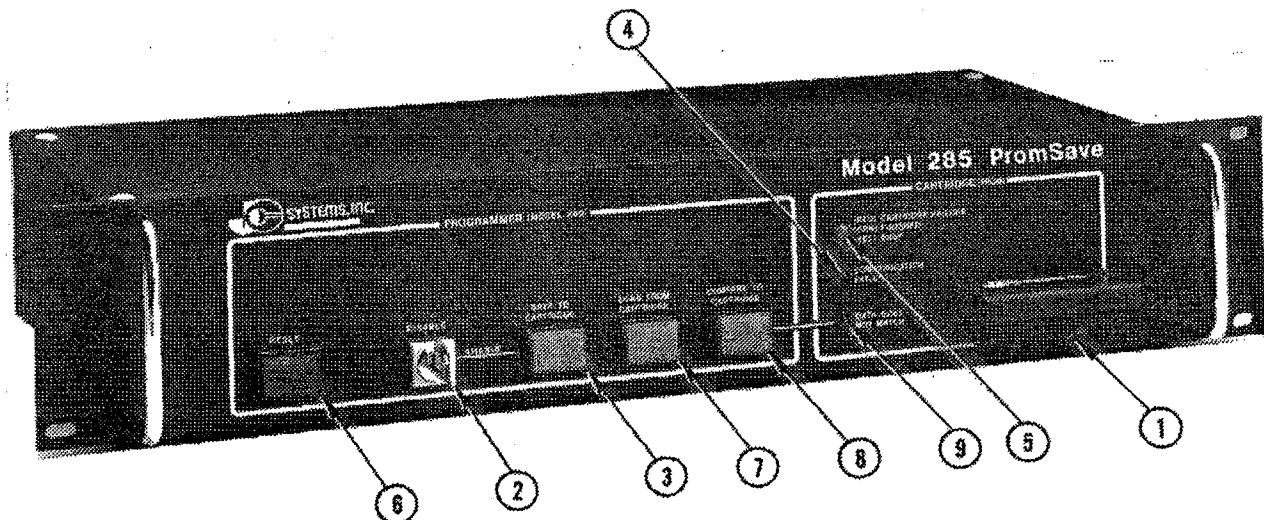

Figure 4-1: Model 285 PromSave™ Controls and Indicators.
This chapter describes how to connect and use the JC Systems Model 285 PromSave™ (Figure 4-1). This device is an optional accessory that permits fast, easy storage and retrieval of programs developed on the JCS Model 240A, 510 or 520. Such programs can be stored on the PromSave™'s cartridge and retrieved for reuse at any time.
1. Insert EEPROM cartridge (Figure 4-1 Item 1) into its receptacle on PromSave™ front panel.
2. Turn PromSave™ keyswitch (2) to ENABLE position.
3. Press SAVE TO CARTRIDGE button (3). Program transfer will begin. During memory transfer, the PromSave™ will automatically perform a comparison and verification between the Model 520 memory and the cartridge. One of the three LEDs on the PromSave™ front panel will light as appropriate to indicate cartridge or transfer status as follows.
- a. Top LED (5) will be:
- b. Center LED (4), which is red, will light if there is a communications failure between the Model 520 and the PromSave™. Check Model 520 front panel keyswitch and control board switch S1 mode selections (see Para. 4.4) and RS-232C interface cable connections.
- c. Bottom LED (9), which is also red, will light if the Model 520 memory and the PromSave™ cartridge memory do not contain the same information.
4. If a red LED lights during transfer, correct the indicated problem and press the RESET button (6) to try again.
5. After transfer has been successfully completed, turn the PromSave™ keyswitch (2) to DISABLE position.